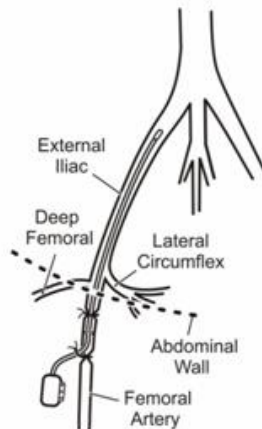

Figure 3. Catheter inserted directly into femoral artery
- In some species, there is a naturally occurring pocket located in the femoral triangle that is typically occupied by a lymph node. Placement of the implant in this pocket allows the catheter to proceed directly into the femoral artery. Secure the implant via the suture ribs adjacent to and not directly on top of the artery location (see Figure 3).